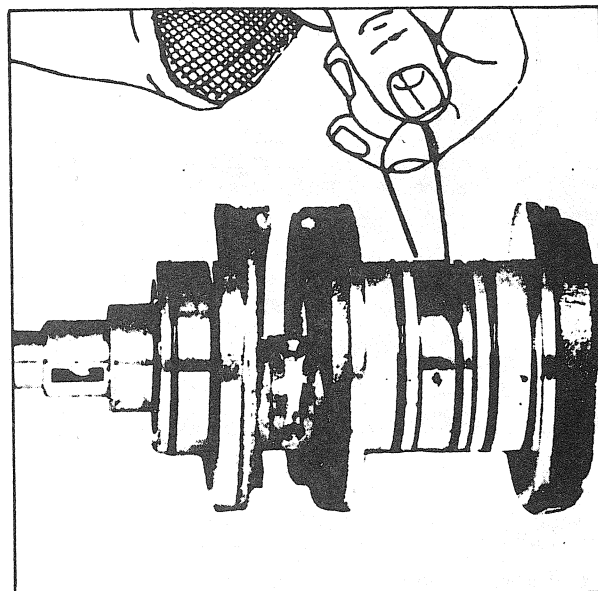

FIGURE 24
- Remove the five (5) crankshaft "O" rings. The central (3) "O" rings have to be stretched over the connecting rods and counterweights to remove them (fig. 24).